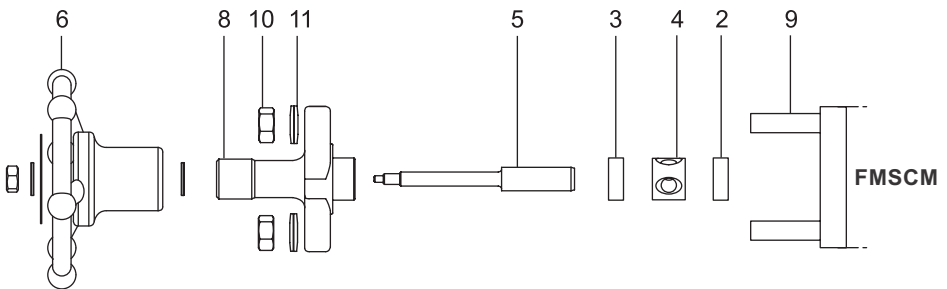

Figure 6: View showing valve internals OF FMSCM manifold
7.5. Procedure to Dismantle the integral isolation valve: [Refer Figure 6]
7.6. Procedure to Repack the integral isolation valve: [Refer Figure 6 and 7]
7.7. Procedure to reassemble the integral isolation valve: (Refer fig. 6)